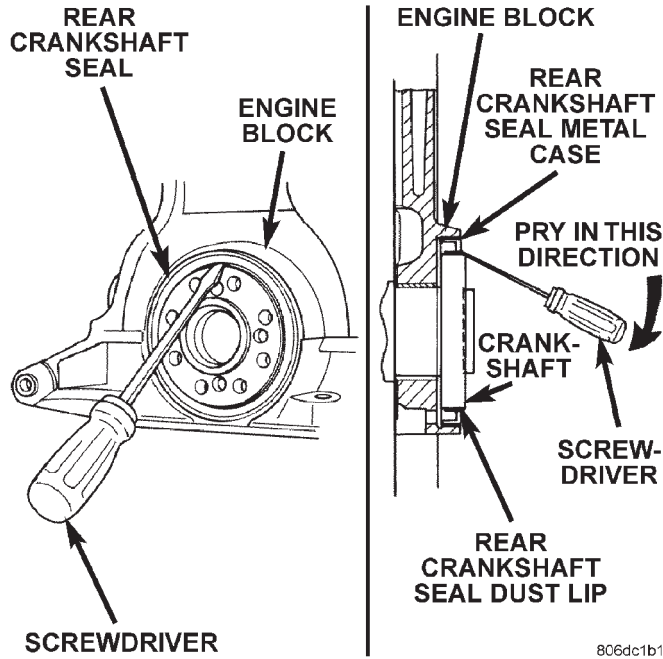

Fig. 97 Rear Crankshaft Oil Seal—Removal
(1) Insert a 3/16 flat bladed screwdriver between the dust lip and the metal case of the crankshaft seal. Angle the screwdriver (Fig. 97) through the dust lip against metal case of the seal. Pry out seal.